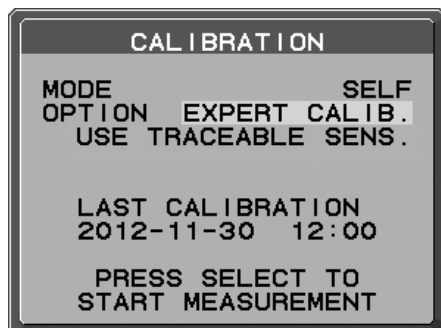

Figure S.1
2. Use “LEFT” or “RIGHT” to select SELF in the MODE selection (**Figure S.1**). Press SELECT to go to the next section.